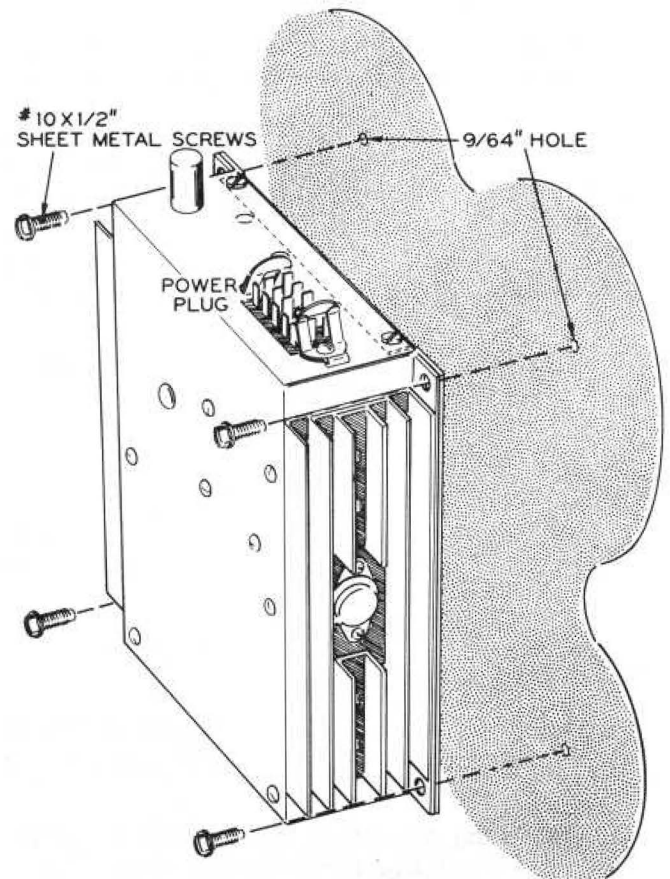

Figure 4
- () Referring to Figure 4, mount the complete unit at the prepared location. Start all four #10 x 1/2" sheet metal screws into the mounting surface, and then tighten securely.